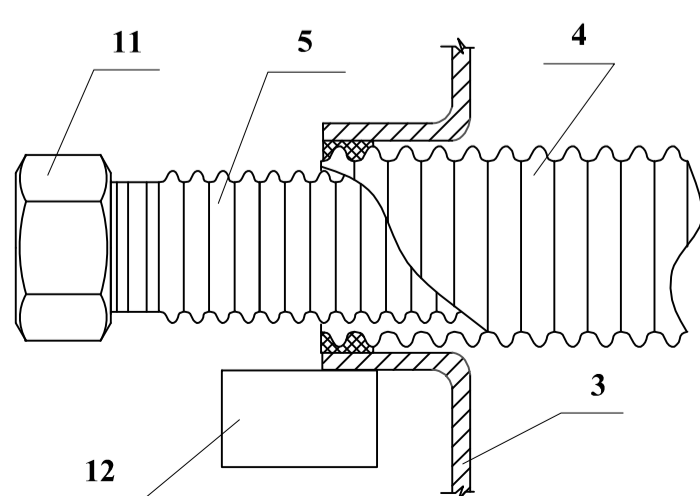

Fig.5
- For these devices the decision node of the input and output of the heated water duct, as shown in **Fig. 5**, is of the same type.